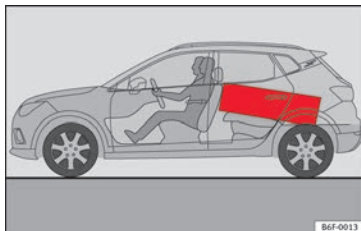

Fig. 162 Position heavy items as far forward as possible.
- Place heavy objects as far forward as possible in the luggage compartment »» Fig. 162.